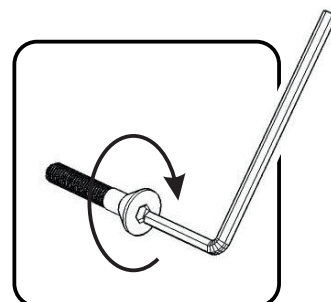

Figure 2
Attach Back Stretcher (I) and Front Stretcher (J) to Side Frame (E) with Flat Washers, Spring Washers, Head Cap Bolts and Tapered Head Cap Bolt, tightening the bolts only half way. (See Figure 2)